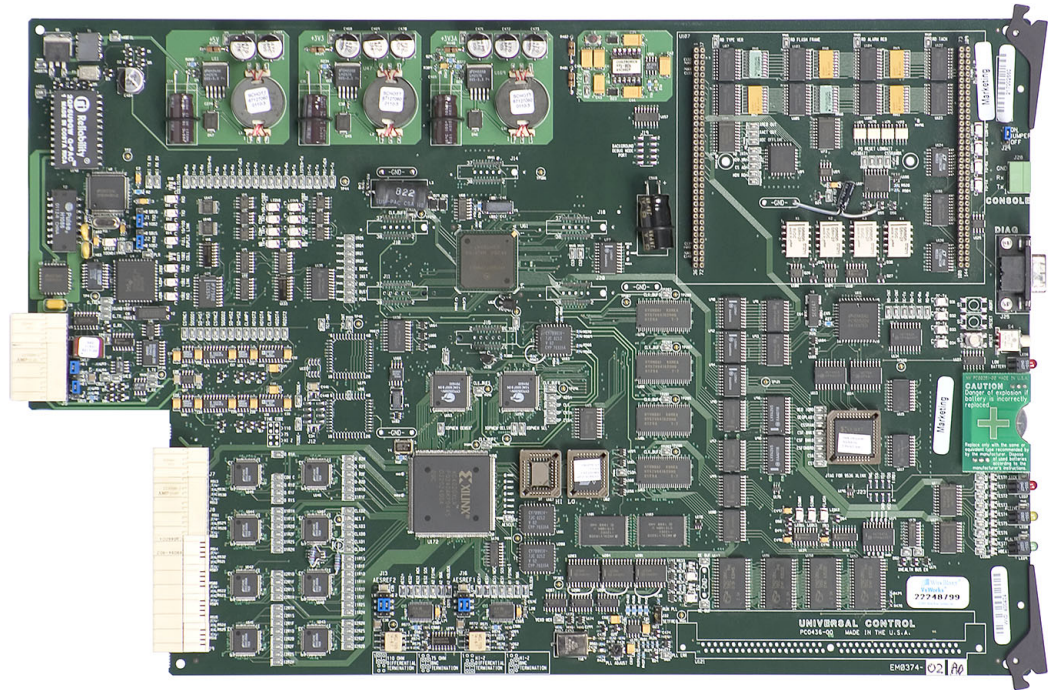

Figure 4-2. Control Card
- 3 On the card, locate each jumper by its label number, placing jumper sleeves as needed, as shown in Figure 4-2. Jumpers are colored blue.